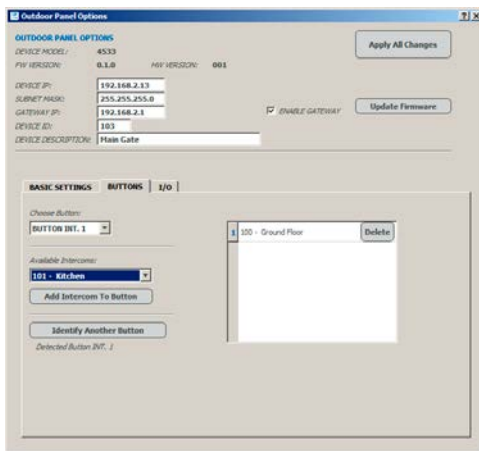

Fig. 15 Outdoor Panel - Buttons - Button Detected
The "**BUTTONS**" tab (Fig. 15) can be used to set each call button to call one or more devices:
- » To identify a button on a door panel, you can click on "**Identify Another Button**", the software then waits for a button to be pressed. (Fig. 15).